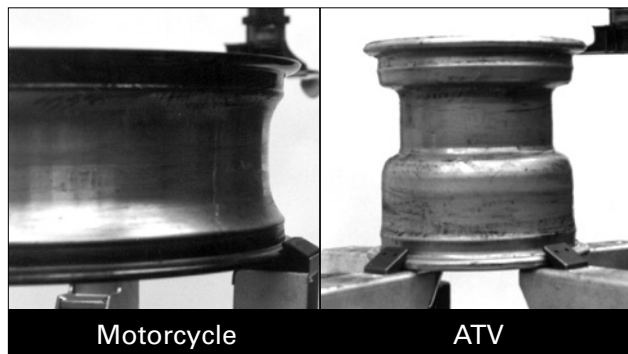

Figure 14 - Inspect and Clean the Wheel
1. Inspect the wheel closely for damage. Clean the wheel and remove any light corrosion or rubber residue (figure 14). Do not attempt to service heavily corroded wheels.